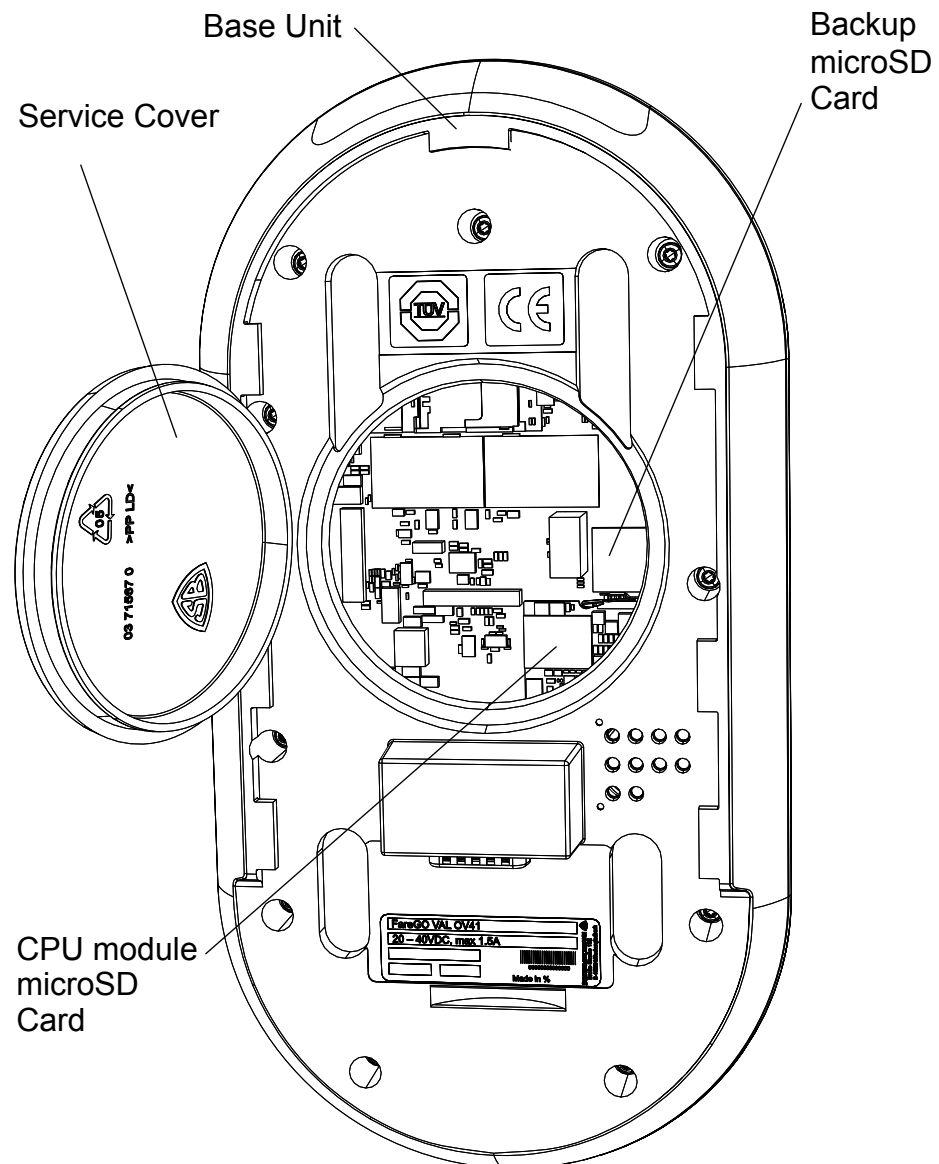

Figure 4-17 Service Cover - open
- STEP 4:** Remove the Backup microSD Card as shown in **Figure 4-17**.